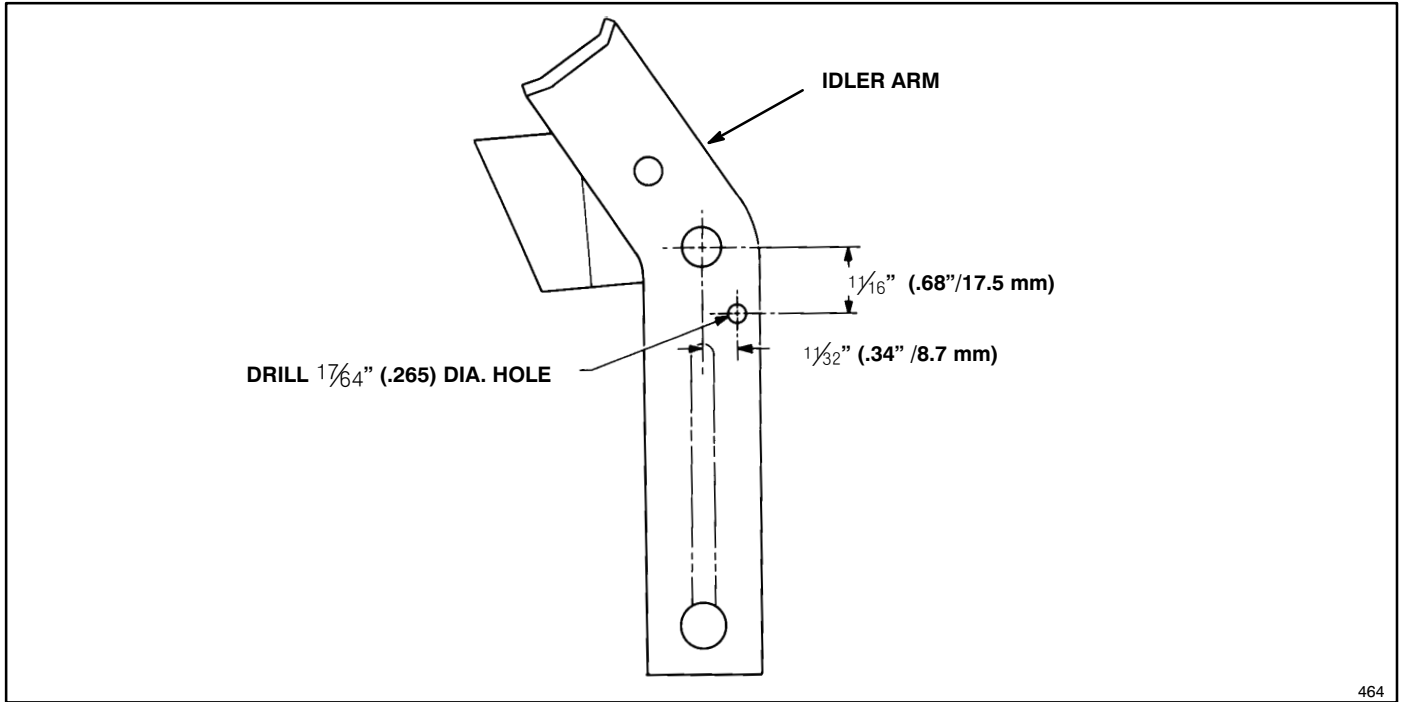

Figure 2
5. Locate and drill a  $1\frac{7}{64}$ " (.265"/6.75 mm) diameter hole through the idler arm as shown in Figure 2.